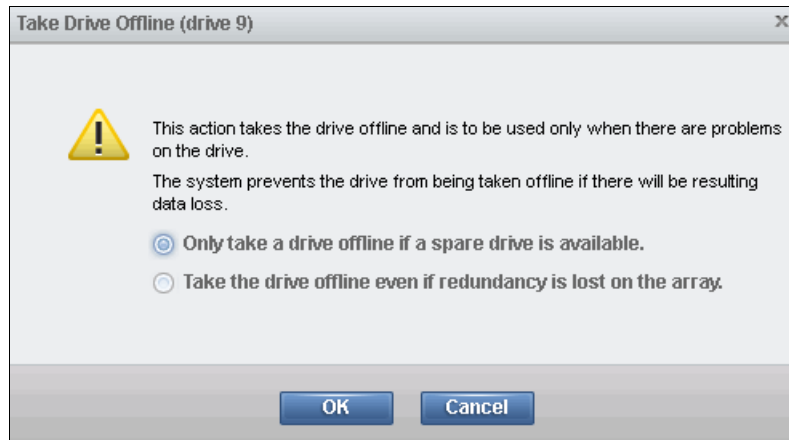

Figure 7-6 Take internal drive offline warning
1. When you attempt to take a drive offline, a confirmation window opens, as shown in Figure 7-6.